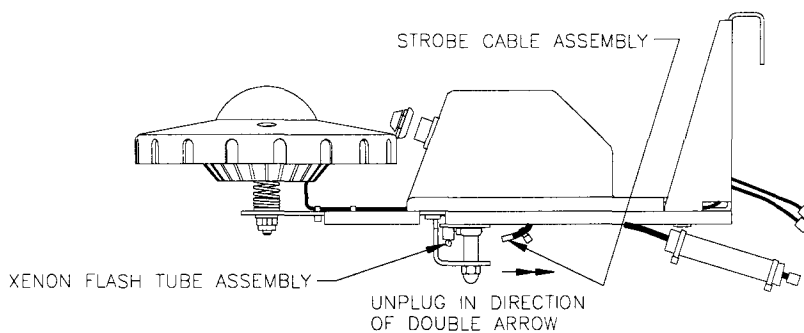

FIGURE 11
1. Carefully unplug Strobe Cable Assembly (p/n 5797-14773) from the Xenon Flash Tube Assembly (p/n A-20718) (See Fig.11)